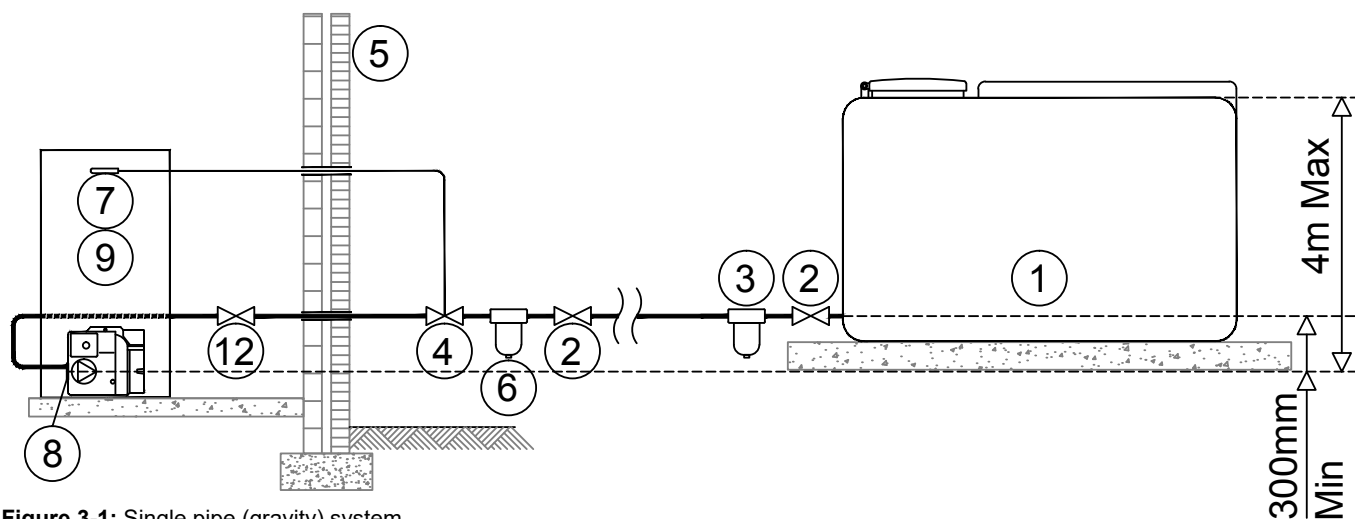

Figure 3-1: Single pipe (gravity) system
A second filter (15 µm for Kerosene) must be located closer to the burner to protect the burner pump and nozzle from contamination. Refer to Figures 3-1 to 3-3.
The fire valve should be located after the second (15 micron) filter, i.e. between the filter and the point at which the oil line enters the building. Refer to Figures 3-1 to 3-3.
3.1.3 SINGLE PIPE (GRAVITY) SYSTEM - (REFER TO FIGURE 3-1)